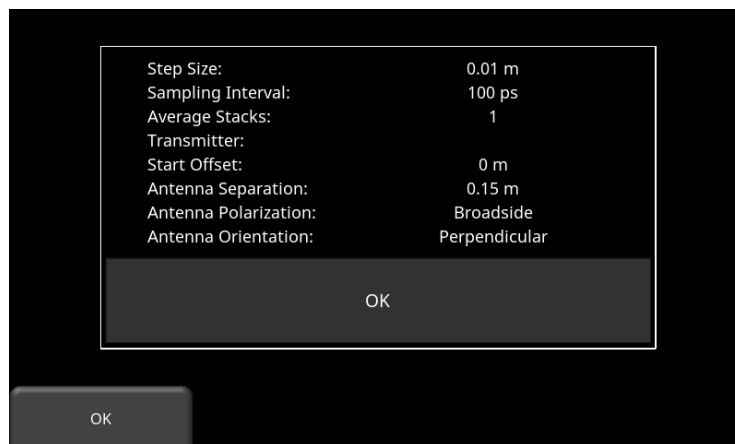

Figure 7-22: Pressing additional information
- Press **Additional Info** to see extra information regarding the collected line (e.g. Antenna geometry, step size etc.), Figure 7-22.